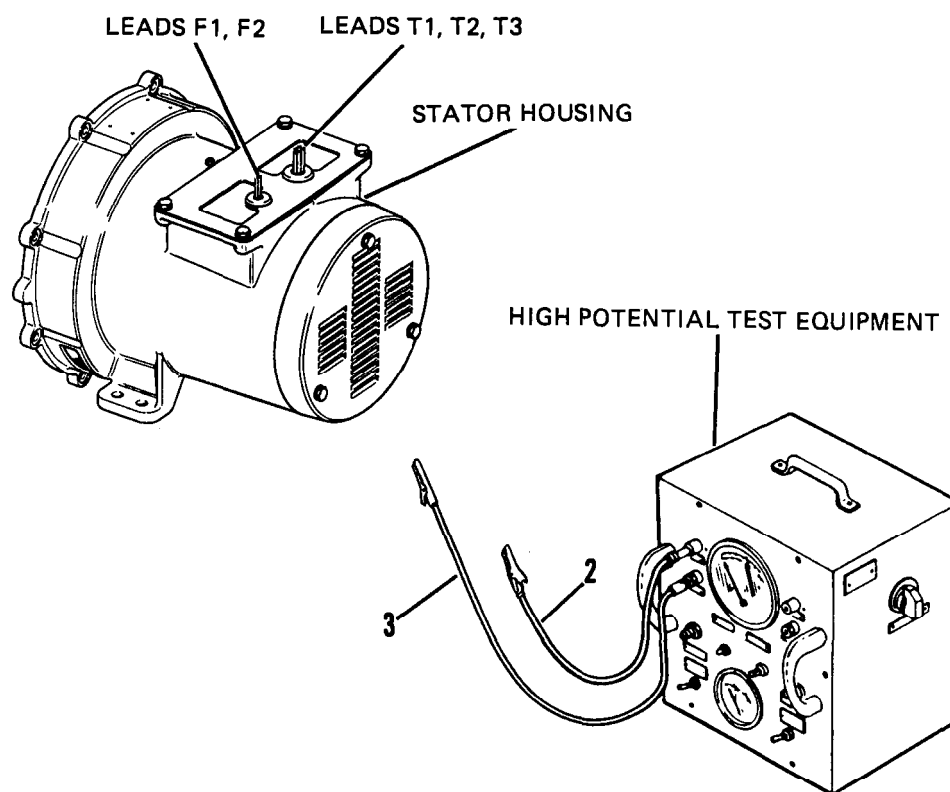

Figure 5-10. Stator Winding Insulation Test.
- (1) General. The high potential test is performed to determine whether or not the insulation of the equipment under test is defective. It is customary to determine whether electrical equipment will withstand normal voltage stresses by means of a test in which higher voltage than normal are applied for a definite period of time. The applied voltage must not be so high (above 1,500 V) as to damage the insulation unless the insulation was initially defective.
- (2) Test Equipment. Use acceptable high potential test equipment, following the operating instructions of the manufacturer. Refer to Table 2-1 or Appendix B, Section III of TM 05926B/06509B-12/TM 5-6115-615-12/NAVFAC P-8-646-12/TO 35C2-3-386-31 manual.
- (3) Procedure.
- (a) Adequately ground high potential test equipment (Figure 5-10) to a water pipe or similar electrical ground in accordance with instructions accompanying the test equipment.